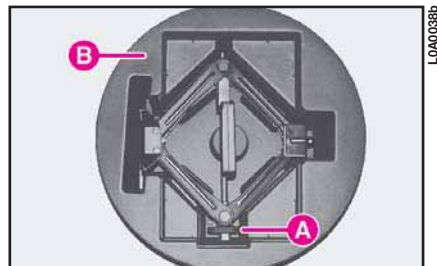

fig. 7
8) Unscrew manually the jack handle **A** (fig. 7) and remove it from the container **B**.